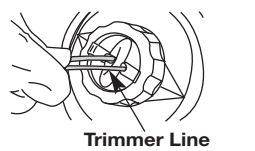

Fig. 31
2. Using 16 ft. (4.8 m) of 0.095 in. (2.41 mm) replacement line push both ends of the line through the holes in the bump knob until they protrude through the eyelets on both sides of the cutting head. Continue pulling the line until approximately 8 ft. (2.4 m) is visible from both sides of the cutting head. (Fig. 31)
3. Hold the spool cover, turn the bump knob clockwise to wind the line around the spool until about 5 in. (12.7 cm) is protruding from each side of the cutting head. (Fig. 31)